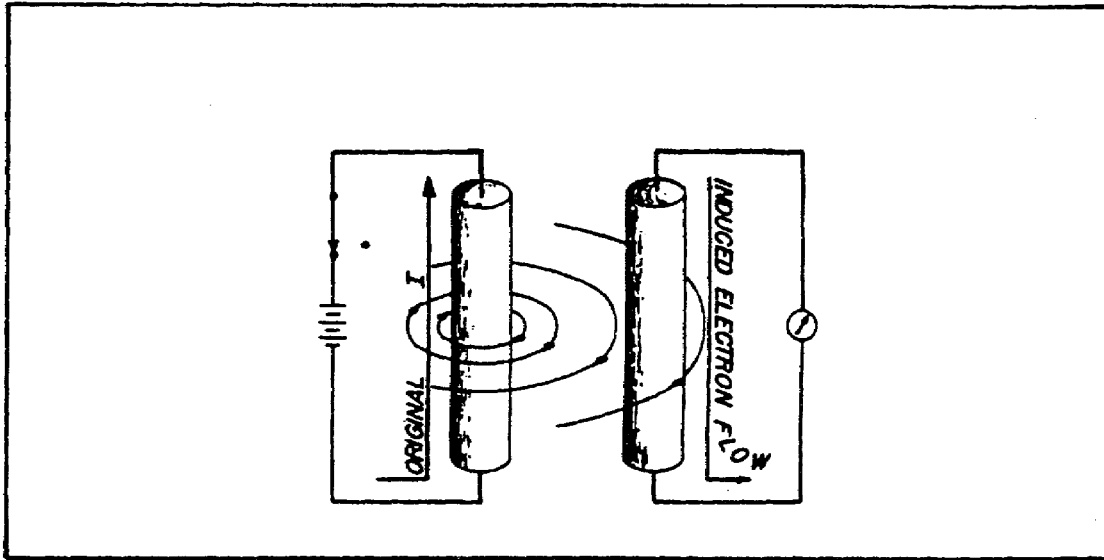

FIGURE 9. GENERATION OF AN EMF IN AN ELECTRICAL CONDUCTOR.
b. *Electromotive Force (EMF)*. Electromotive force is a difference of potential or voltage which exists between two points in an electrical circuit. In generators and inductors, the emf is developed by the action between the magnetic field and the electrons in a conductor (shown in figure 9).